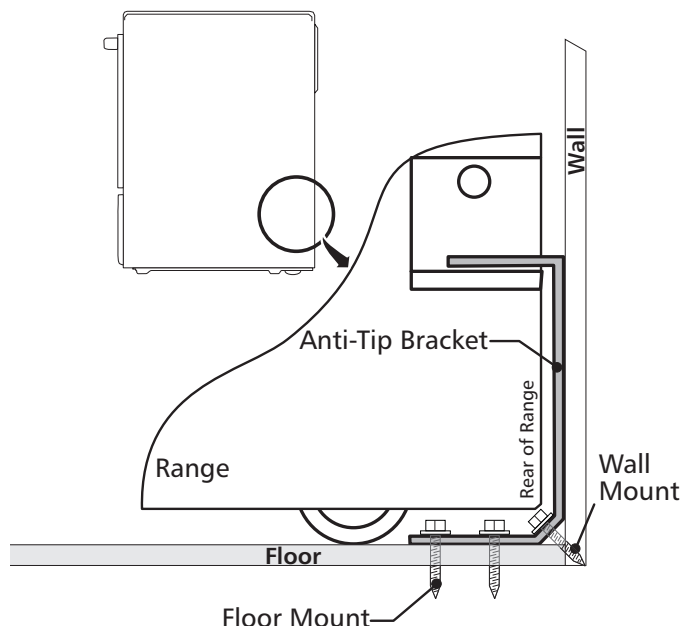

Figure 13
4. Remove template and place bracket on floor. Line up holes in bracket with marks on floor/wall and attach with screws provided. Bracket must be secured to solid floor or wall (Figure 13). If attaching to concrete floor, first drill 3/16" (0,48 cm) dia. pilot holes using masonry drill bit.
6. Slide range into place making sure structure of the range is trapped by the anti-tip bracket (Figure 13). Lower the range by adjusting the levelling legs until the underside of the cooktop is sitting level on the countertop. Refer to "Levelling the Range" section.